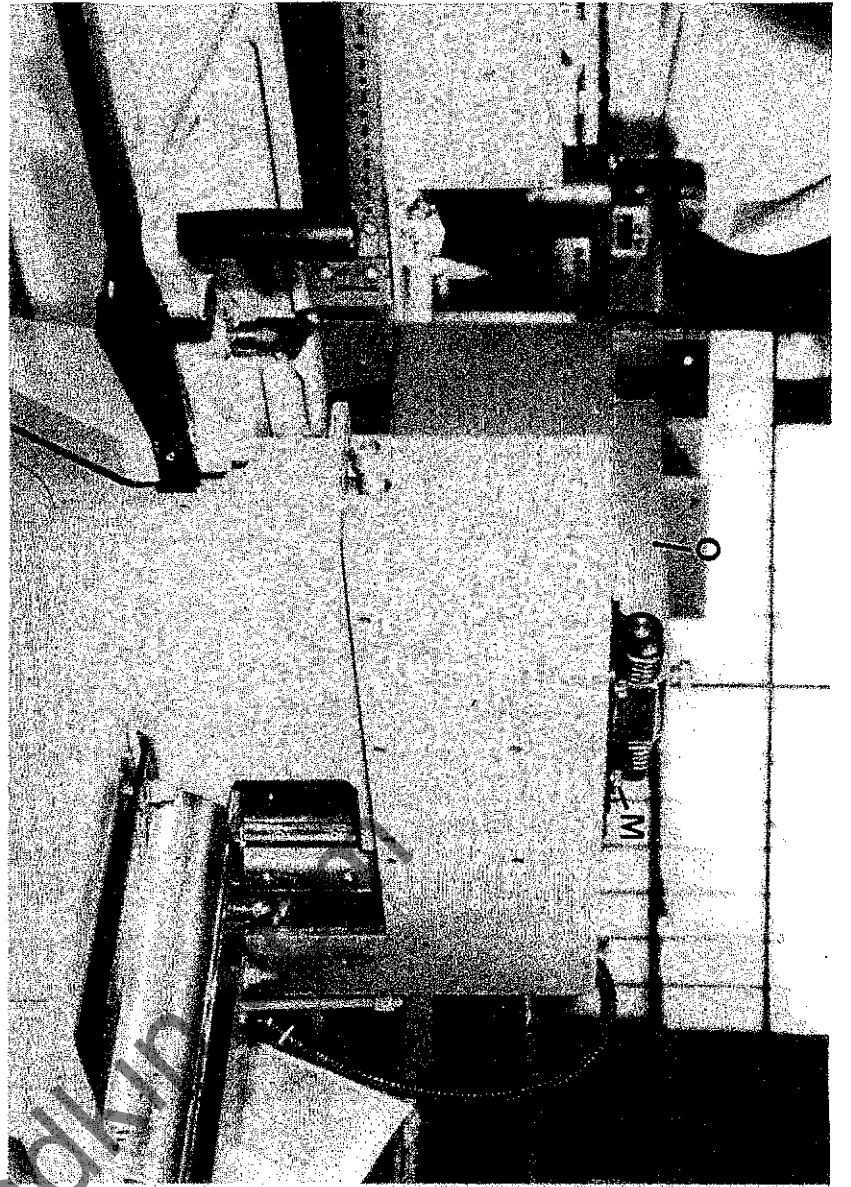

Fig 29
- 2) Remove 1 - M10 socket capscREW "M" FIG.29 from planer feed unit "Q" and screw into top of planer feed unit.